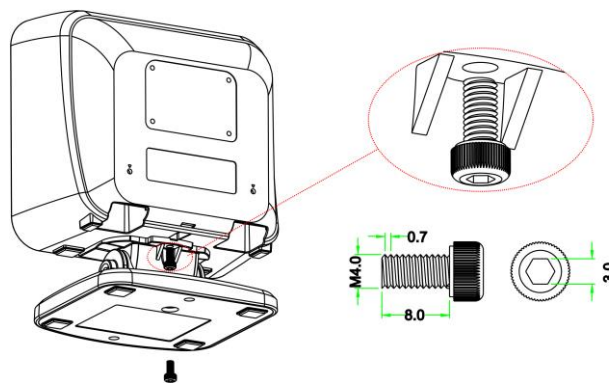

Figure 5-2
2. As shown in Figure 5-2, well connect the image platform with the stand by tightening the single screw.